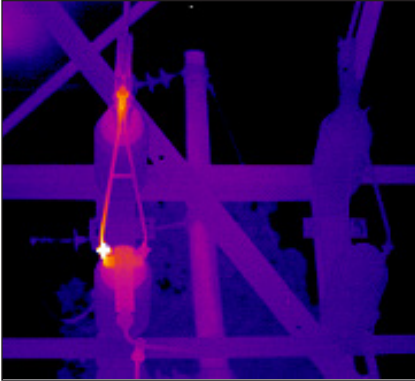

Figure 5. The “hot spot” on this disconnect may not be the point of high resistance. Current can “shunt” away leaving the problem cooler.
- **Current Shunting:** Also commonly overlooked are situations where a warm component or asset may be the normal one, while the cooler one may have a higher resistance. The most basic example is the “barber pole effect” often seen on multi-strand conductors. This occurs when several strands are broken or isolated electrically by corrosion, the remainder of the strands must carry the entire load and, thus, appear warmer. Current is shunted away from cool strands that, because of their higher resistance, do not function properly. A similar situation can often be seen to exist on many yoke-type disconnects (Fig. 5).